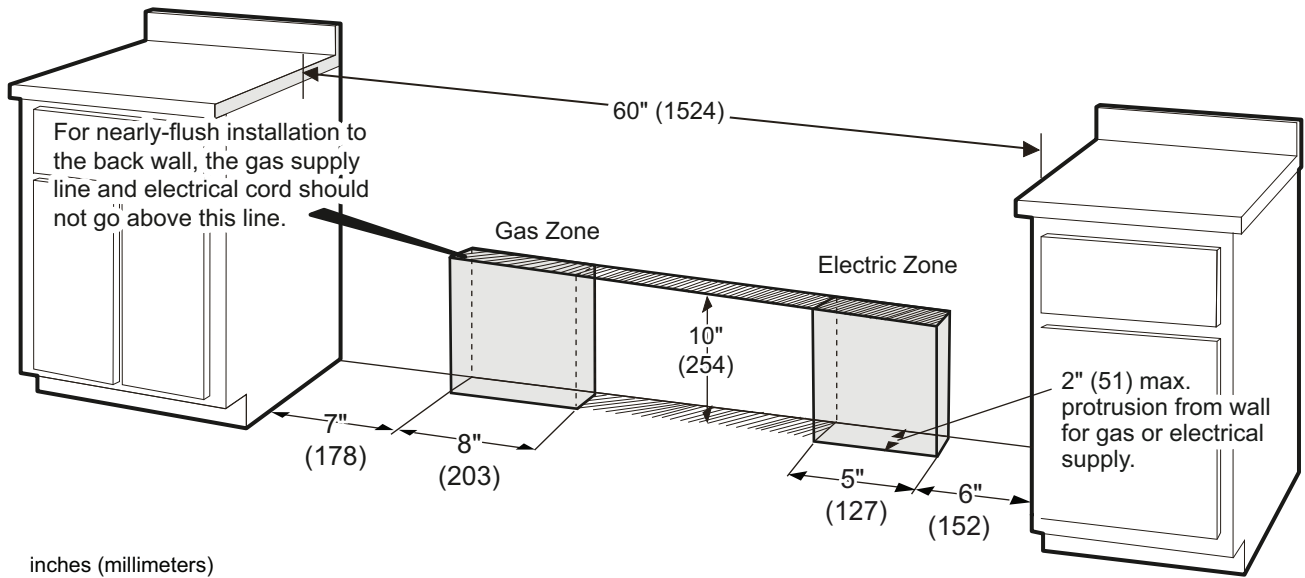

Figure 3: Gas & Electrical Supply Locations
- The gas and electrical supply should be within the zones shown in *Figure 3* on *page 10*.